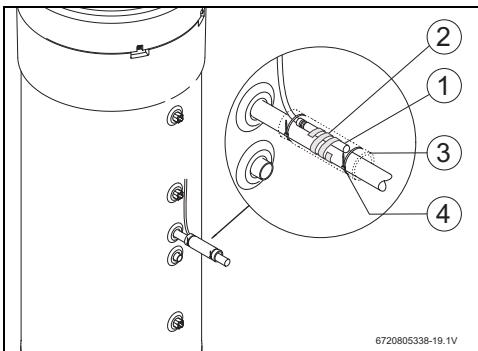

Fig. 12
- Position the temperature sensor NTC of the accessories [1] as shown in Fig. 12.